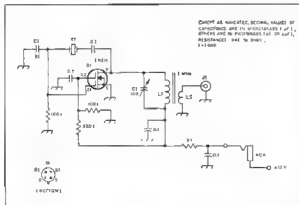
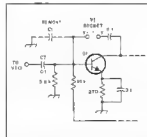
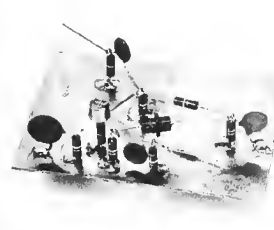

Fig. 3 — Same circuit as Fig. 1 except that an FET is used at Q1.
Fig. 4 — Method for attaching a VFO to the circuit of Fig. 1 and Fig. 3. C1 is thus changed from an oscillator to an amplifier.
Fig. 1 — Photograph of the simple breadboard depicted in Fig. 2A. High-ohmage isolators serve as standoff spacers.
Fig. 1 — Circuit of a one-transistor ORP transmitter. Fixed-value capacitors are disc ceramic, 50 volts dc minimum. Resistors are 1/4- or 1/2-watt commercial, 10% tolerance. C1 decoupled in test. GE is a 100V 5 mA tube; L1 is a 20- $\mu$ H winding of 34 turns of no. 36 enameled wire on an Armetron or Palomar T56-Z toroid core. L2 is 5 turns of no. 26 enameled wire wound over L1 winding (see text). J1 is a phono jack, and J2 is a 2-circuit phone jack. Y1 is a fundamental supralunar new crystal for the standard 0.5-meg ORP frequency (7060 kHz).
How complicated can a transmitter be for experimental work? Actually, a one-transistor oscillator qualifies as a transmitter. Many beginners have had exciting results with such a circuit while operating with only 50 milliwatts (0.05 watt) of power output. For example, the circuit in Fig.1 was tested together one lunch hour in the ARRL lab and was connected to a 28-foot (8.5-m) base-loaded vertical antenna with buried radials. On the third try an answer came from a W1 in Ohio. A signal report of RST 569 was received for one 30-mW signal on 7360 kHz. A second QSO with a W2 station in New Jersey netted an RST 589 report!
Y1 of Fig. 1 determines the operating frequency. C2, in series with L1, is the approximate frequency of Y1. If it is set for resonance at exactly 7060 kHz, in this example, the cw signal may become chirpy. With this type of oscillator it is best to tune the C2/L2 circuit for the best sounding note consistent with reasonable power output. Maximum power will not coincide with the cleanest cw note when connecting an antenna to this type of oscillator unless very light coupling is used (L2) between the tuned circuit and the antenna. The tighter coupling will, in itself, reduce the available power to the antenna.
The circuit of Fig. 1 can be used on 150, 80, 40 or 20 meters by using a fundamental-crystal for the desired frequency. CI is part of the feedback network and will have to be chosen for the crystal we use. This is because some crystals are more active than others. The more sluggish a crystal is, the greater the feedback voltage required to make the circuit oscillate reliably. Values between 15 and 100 pF are typical for use with CI in this particular circuit. We can experiment with the number of turns in L2 to obtain more or less gain, if power output from the circuit.
We can also use field-effect transistors as oscillators of the kind illustrated in Fig. 1. The version seen in Fig. 3 contains a dual-gate MOSFET. Output power from this circuit will be somewhat lower than that from the bipolar transistor oscillator of Fig. 1, but plenty of QSOs can be had with this simple transmitter. Other dual-gate MOSFETs could be used in place of the 3N211, such as a 40673.
If we decided to use a VFO to control the operating frequency of the transmitter in Fig. 1, we could make the modifications shown in Fig. 4. Y1 and L1 are removed to prevent oscillation at the crystal frequency. A decoupling capacitor (C3) is added as shown. The rf voltage (rms) developed from the base of Q1 to ground (with the VFO connected and operating) should be between 1 and 3 volts for best results. This shows just another way we can experiment with simple circuits.
Additional experiments can be conducted with the one-transistor transmitters by trying various types of transistors in the basic circuits of Figs. 1 and 3. One important transistor characteristic is the maximum operating voltage ( $V_{CE}$ ), which should never be rated less than two times the supply voltage for 1-watt work. This will allow for the voltage swing (peak to peak) during the rf sine-wave cycle at the collector or drain. If the voltage is allowed to rise beyond the specified safe value, the transistor can "go away" instantly! We must be concerned also with the upper frequency rating of the semiconductor. This is usually specified as  $f_T$ . A good rule of thumb for obtaining maximum oscillator
Q3 functions as an electronic switch. When its base circuit is grounded by the cw key it conducts and allows the dc to reach the amplifier stage, Q2. This method helps to reduce the possibility of shutting off the 12-volt supply accidentally, as could happen with the c.w. of Fig. 1 and 3 where J1 is in the 12-volt line.
The ARRL would welcome clear photographs and reports of the best DX worked with the circuits of Fig. 1 and Fig. 3. Perhaps if we can get enough input on this subject we can run a page of photos, calls and DX records in an issue of *QST*. We
Fig. 3 — (A) Illustration A shows how isolated pads can be glued to a piece of copper-clad pc board to form a simple breadboard. The equivalent circuit is shown at B. A short wire jumper can be used to join individual pads as shown just below C3 at A.
A comparison between the practical and schematic circuits for a simple half-wave harmonic filter is provided in Fig. 3. The pictorial version shows how we might mount the parts when using the glue-and-pad technique. There are some missed pads in the foreground.